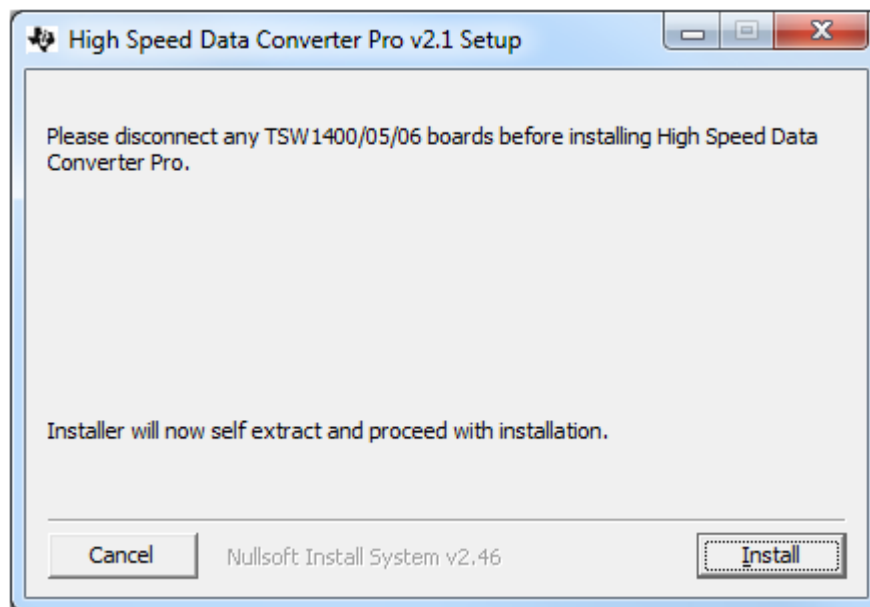

Figure 2. HSDCpro Install (a)
- Unzip the saved folder and run the installer executable to obtain the menu shown in Figure 2.